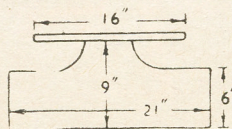

Fig. 3—Fancy top
The heat control unit (B) is constructed from a discarded wax or shoe-polish tin. Fig. 3 clearly indicates the constructional features. Two $\frac{1}{2}$ in. diameter holes are drilled in the tin, one in the lid near the edge, the other, diametrically opposed, in the tin bottom. The relative positions of the holes are shown in Fig. 3 (A & B).